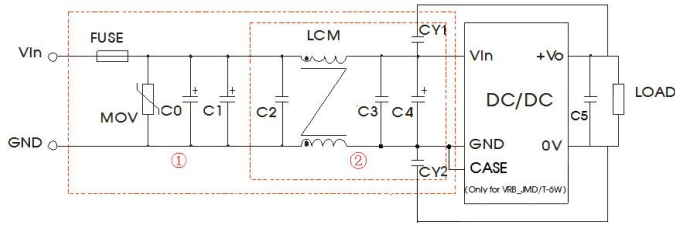

Fig. 3
1. For EMC tests we use Part ① in Fig. 3 for immunity and part ② for emissions test. Selecting based on needs.